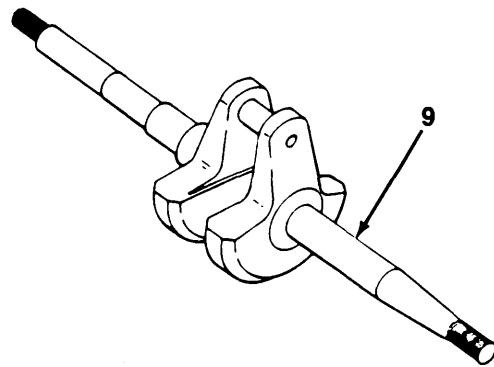

**Figure 6-14. Measuring Connecting Rod Boxes.**
**Refer to Figure 6-14, *Measuring Connecting Rod Bores*, for steps i through n.**
- i. Using inside caliper micrometer, measure piston pin bore diameter of connecting rod (7). Measurement must be 0.6870-0.6875 in. (17.4498-17.4625 mm). Replace connecting rod if measurement is not within specification.
- j. Place connecting-rod (7) in vise with caps,
- k. install connecting rod cap (10) on connecting rod (7) with two screws (11).
- l. Using inside caliper micrometer, measure bore diameter of connecting rod (7) and connecting rod cap (10). Diameter must be 0.9399-0.9403 in. (23.8735-23.8836 mm).
- m. Remove two screws (11) and connecting rod cap (10) from connecting rod (7).
- n. Remove connecting rod (7) from vise.